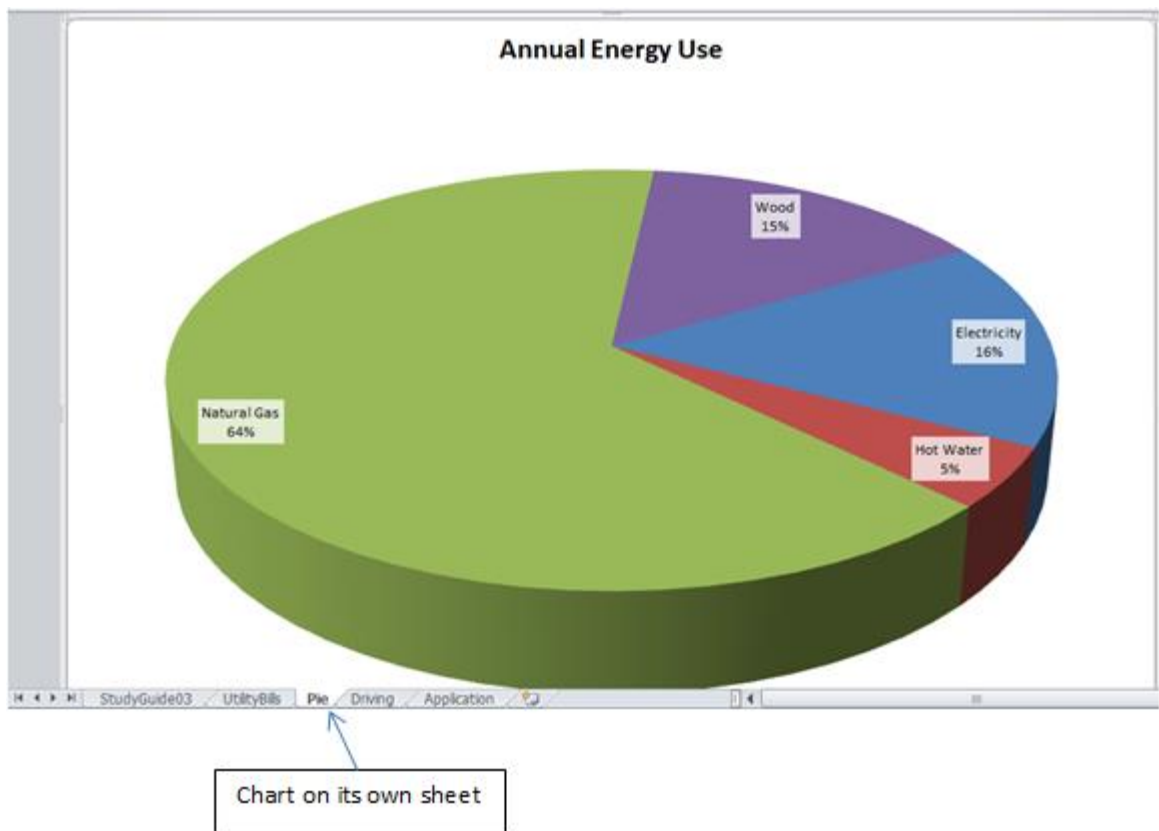

Figure 3.50. Chart transferred to a separate sheet in the workbook
10. Drag the Pie sheet tab to the right of the UtilityBills sheet tab. Refer to Figure 3.50.